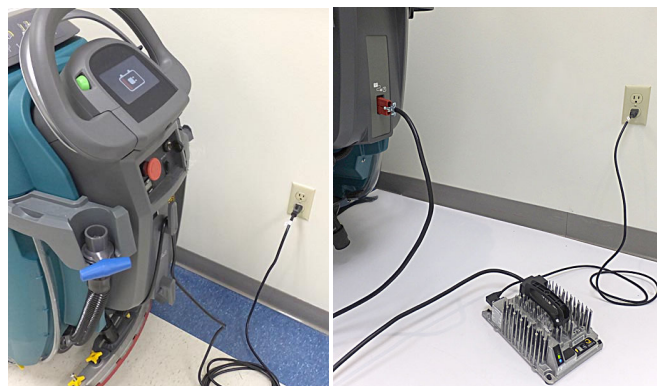

FIG. 96
13. Charge batteries (Figure 96). See BATTERIES.